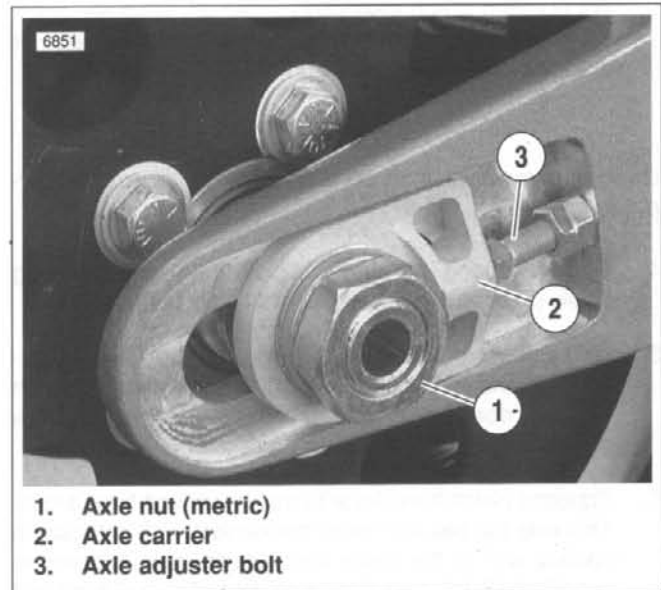

Figure 1-40. Rear Axle Adjuster
2. See Figure 1-40. Loosen rear axle nut (1) (metric), if not already loose.